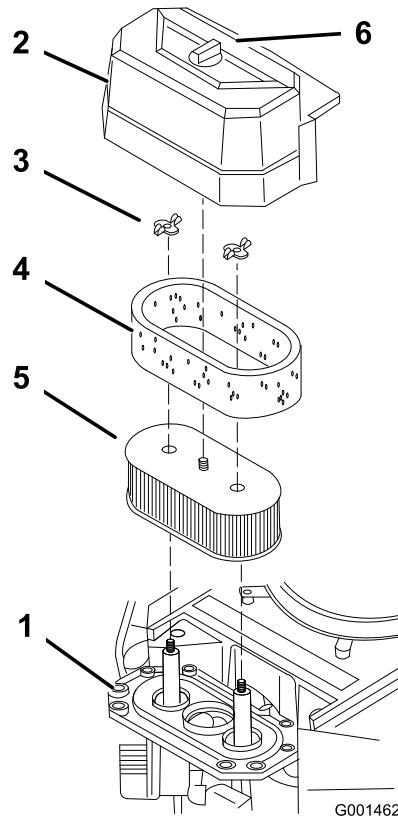

Figure 24
3. Clean around the air cleaner to prevent dirt from getting into the engine and causing damage (Figure 24).
4. Unscrew the cover knob and remove the air cleaner cover (Figure 24).
5. Remove the 2 wing nuts and remove the air cleaner assembly (Figure 24).
6. Carefully pull the foam element off the paper element (Figure 24).
1. Do not clean the paper filter, replace it (Figure 24).
1. Carefully slide the foam element onto the paper air cleaner element (Figure 24).
2. Place the air cleaner assembly onto the air cleaner base and secure it with the 2 wing nuts (Figure 24).
3. Place the air cleaner cover into position and tighten the cover knob (Figure 24).